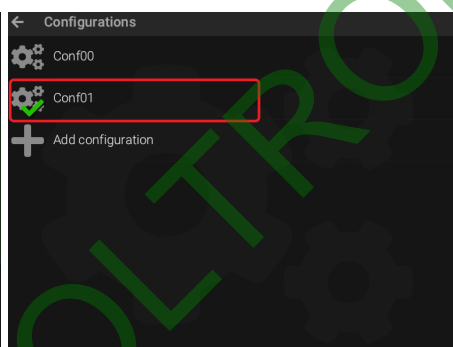

Fig. 32
- Select the configuration in use: it will be the only one that can be edited (Fig. 32).